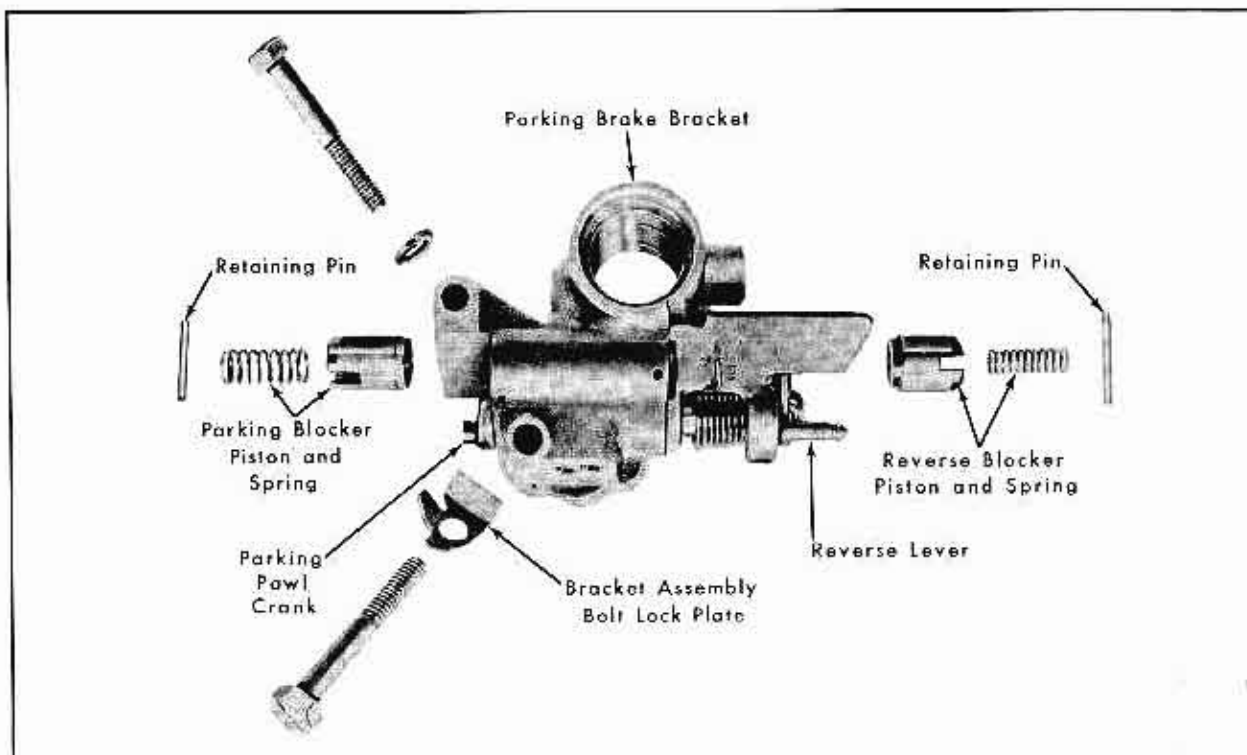

Fig. 14-77 Parking Brake Bracket - Disassembled
3. Remove reverse blocker spring and piston from bracket. Fig. 14-77.